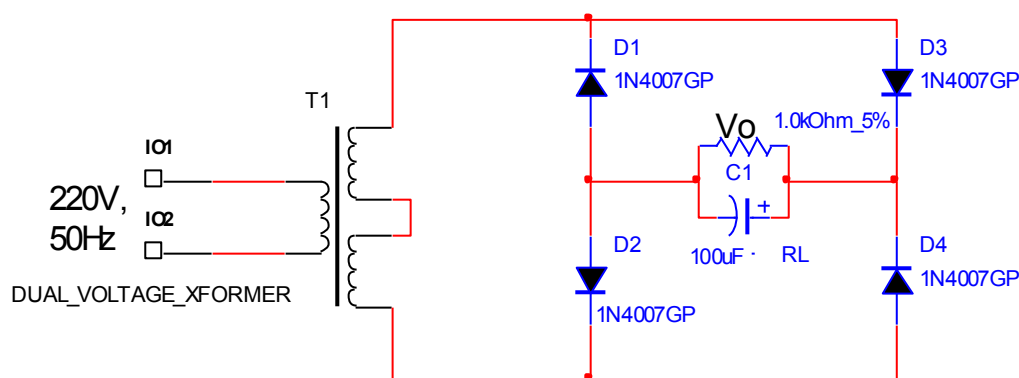

Fig4.2 Full wave Bridge Rectifier
16. Connect the circuit in Fig 4.2